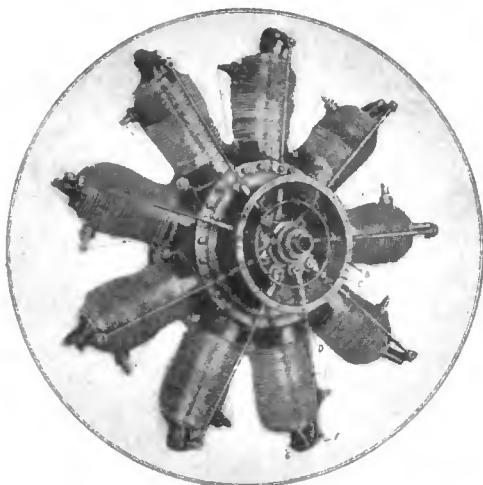
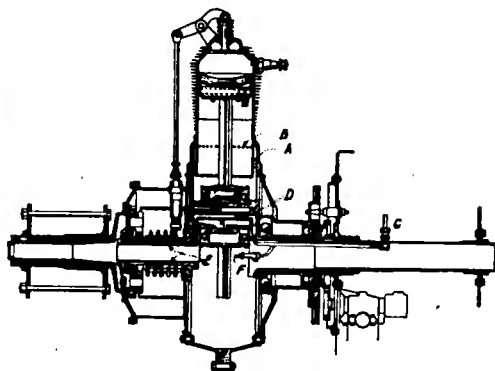

Figure 69a—General view of nine-cylinder rotary engine
Figure 69b—Section view of rotary engine cylinder and crankcase
The figures 69a and 69b show the famous Gnome engine with nine radial cylinders. The explosions occur in each alternate cylinder as the engine revolves, the odd number thus securing a uniform period of explosion. The cylinders, the construction of which is shown in section in figure 69b, are machined from solid 6-inch steel bars, 11 inches in length, weighing less than 100 pounds.
Vaporized gasoline is forced into the crankcase through the jet F (figure 69b) entering the cylinder through the holes A, B, when the piston is at the lowest point. As the piston ascends it covers the port and the gas is compressed and fired in the usual manner. The large valve in the cylinder head is the exhaust, operated by a cam and rod. Lubricating oil enters at C on the stationary crankshaft, passing to the stationary crankpin D and flooding the bearings E. A portion of the oil which lubricates the crankpins is thrown by centrifugal force through the connecting rod tubes and in the same way oils the piston pins and cylinders. Additional lubrication of the cylinders is secured by oil which is thrown through crankcase holes.
In figure 69a the engine is shown with the crankcase cover removed, revealing the cams and gears. One of the nine holes in the crankpin, through which oil is fed to the nine cams, is indicated at A. The cam rollers, one of which is shown at B, carry oil over the surface of the cam, surplus oil feeding through the guides (C) of the valve rods, through the ball joint D and hollow rod E to the pin F. A groove on the valve lever carries the lubrication to the lever bearing G.